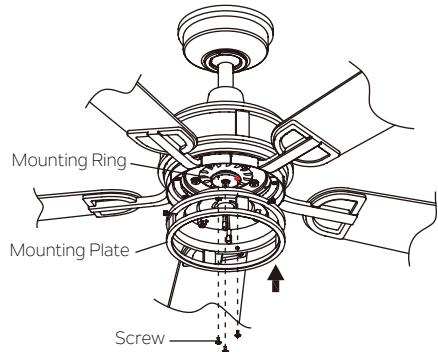

Fig. 21
**Step 1.** You will find one dot label on the mounting ring. Remove the 3 screws preinstalled on mounting ring and keep them for reuse later. Align the dot labels on the mounting plate to the mounting ring. Attach the mounting plate to the mounting ring with three screws removed previously. Please adjust the mounting plate if necessary, to line up the rim both on the motor body and mounting plate. Tighten the 3 screws securely.(Fig. 21)